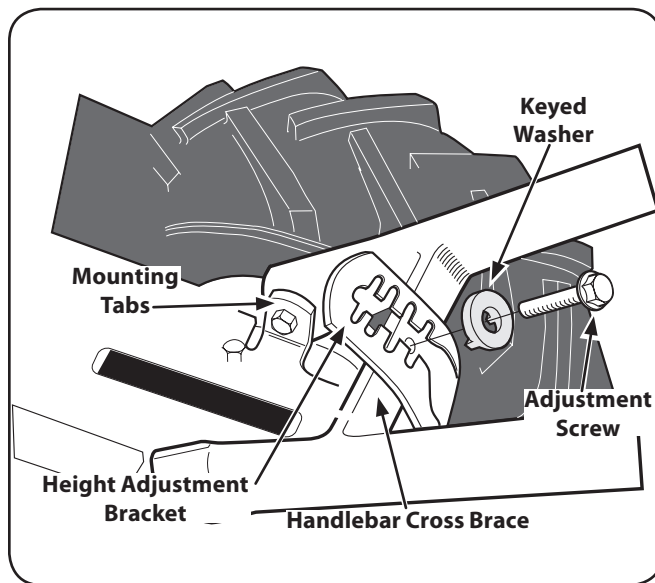
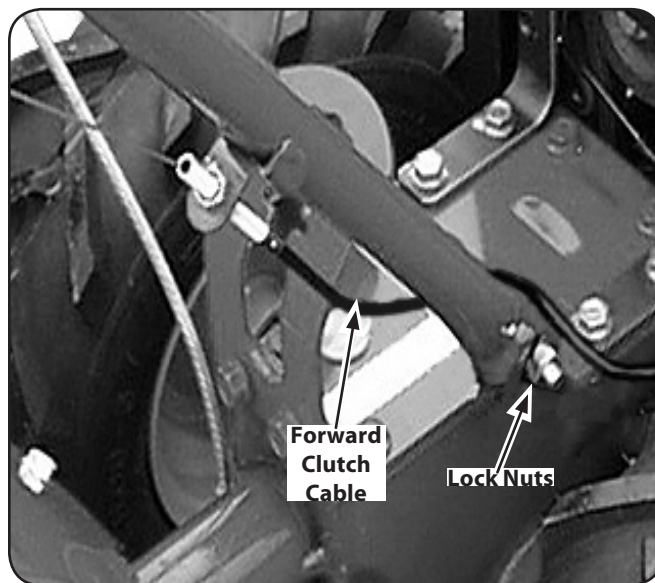

Figure 3-2
Figure 3-3
3. Gently lift the handlebar (do not overstretch the attached cable) and place the handlebar cross-brace in front of the curved height adjustment bracket. See Figure 3-2.
4. With the forward clutch cable on the inside of the handlebar (See Figure 3-3), position the handlebar ends on the outside of the two mounting tabs shown in Figure 3-2 on the transmission top cover.
NOTE: The curved handlebar height adjustment bracket appears as shown in Figure 3-2 for non-electric start tillers. For electric start machines, the bracket is loosened and moved to one side.
5. Loosely attach the handlebars to the mounting tabs with two $\frac{3}{8}$ "-16 x 1" screws (heads of screws go to inside of tabs), $\frac{3}{8}$ " flat washers and $\frac{3}{8}$ "-16 lock nuts. See Figure 3-3.
7. Move the handlebars up or down to align the threaded hole in the cross brace with one of the four slots in the curved height adjustment bracket. Place the keyed washer on the flange head height adjustment screw with the raised edges of the washer facing down. See Figure 3-2.